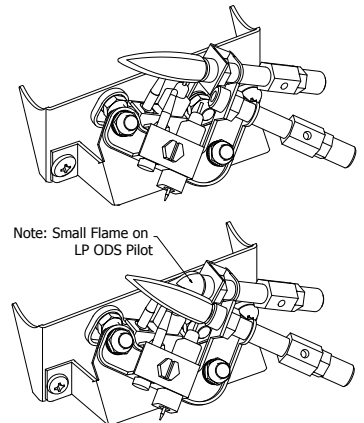
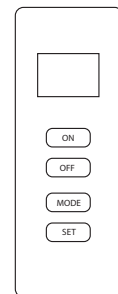

Fig. 27 - Pilot
Fig. 28 - Remote
6. With control knob depressed, push down on the ignitor button until the pilot lights. The pilot's location is behind log #3 near the center of the burner. (See Fig. 27).
7. Keep control knob depressed for (30) seconds after pilot lights. Release control knob.
- If pilot goes out repeat steps 3 through 7. Wait (1) minute before attempting to light pilot again. If after several tries the pilot still goes out, turn the gas control knob clockwise ↷ to the “OFF” position and call a qualified service technician.
9. To use the included thermostatic remote control, set receiver switch to the “REMOTE” position (See Fig. 28). Press the ON button to turn on the remote to ignite the main burner. Refer to the remote control instruction manual on the next page for “MODE” and “SET” functions.